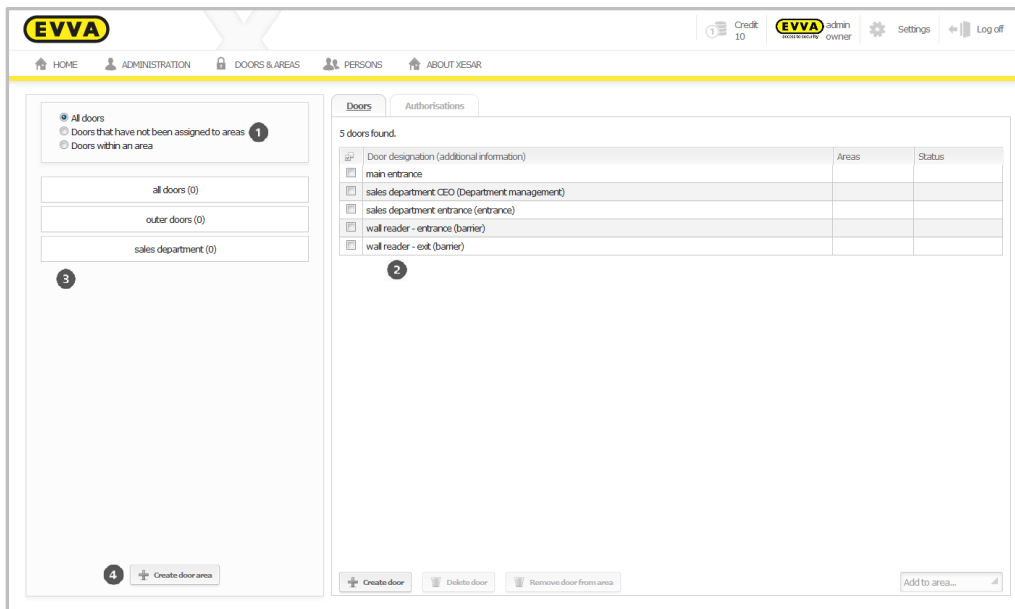

Figure 67: Doors and areas
In the **Doors & areas** section, click the corresponding selection ❶ (select by door) or ❷ (select by area) to open a list of doors and areas which have already been created in the Xesar software and view which doors have been assigned to which areas. You can also assign doors to areas in this section. Create areas to group several doors in categories and facilitate assigning authorisations to make the overall process more transparent. For instance, if you would like to grant one or more persons access to five individual doors, you can group these in an area. Subsequently, all you need to do is assign persons to the area to enable them to unlock the aforementioned five doors. You can create a maximum of 96 areas. It is possible to assign doors to several areas. (Figure 67: Doors and areas)
- Click **Create door area** ④ (Figure 67: Doors and areas).